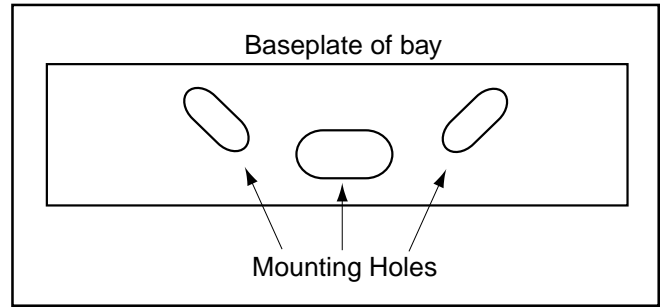

Figure 3. Mounting Holes
- 2) Using a pencil or wax marker, trace the outline of the mounting holes in the base (see Figure 3).